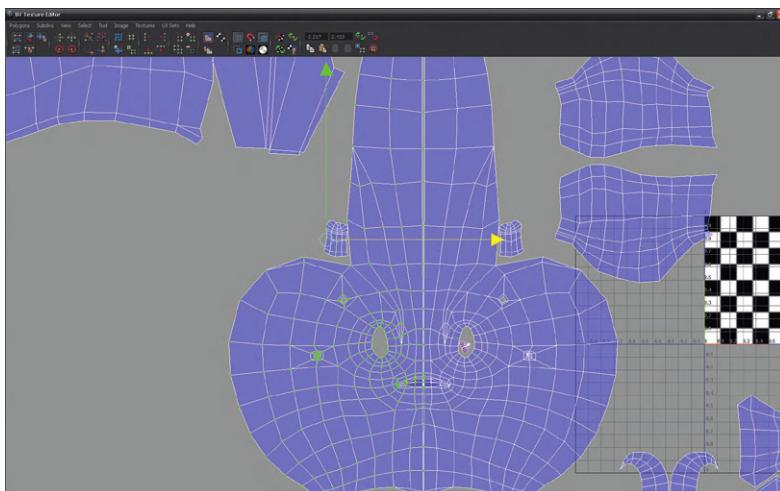

FIG 5.55 Maneuvering the right side shell into position.
Step 35: Maneuver this new shell, so that it aligns with the shell of the left side of the face (Fig. 5.55).